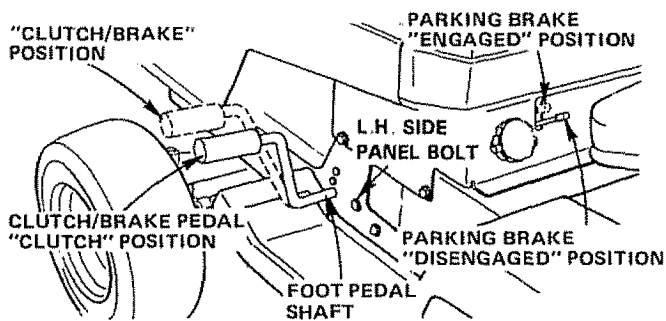
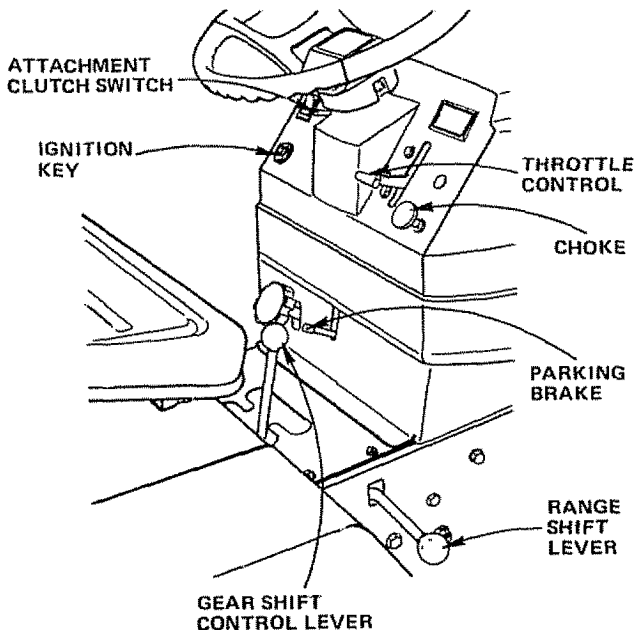

FIGURE 8
FIGURE 9
1. Place Attachment Clutch Switch in "DISENGAGED" position (Fig. 9).
2. Push Clutch-Brake Pedal fully into brake position (Fig. 8).
3. Place Gear Shift Control Lever in "N" neutral, start position; and Range Shift Lever in "N" neutral position (Fig. 9).
4. Pull Choke out (Fig. 9).
5. Move Throttle Control to middle position (Fig. 9).
6. Turn Ignition Key to "START" position until Engine starts (Fig. 9). NOTE: DO NOT RUN STARTER CONTINUOUSLY FOR MORE THAN FIFTEEN SECONDS PER MINUTE. If engine does not start after several attempts, move Throttle Control to "F" (fast) position, wait a few minutes and try again.
2. Push Clutch-Brake Pedal down firmly (Fig. 8). Move Gear Shift Control Lever to desired gear and Range Shift Lever to "LO" (Low) position (Fig. 9).
For pushing or towing your tractor, place Gear Shift Control Lever and Range Shift Lever to "N" neutral position (Fig. 9). NOTE: DO NOT TOW YOUR TRACTOR FASTER THAN SIX MILES PER HOUR.
3. Connect the other end of the cable to the L.H. Side Panel Bolt (Fig. 8). NOTE: KEEP AWAY FROM GAS TANK AND BATTERY.
- a. L.H. Side Panel Bolt (Fig. 8).